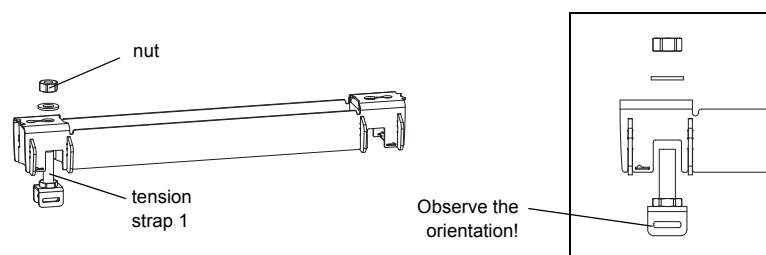

Fig. 9.18: Rail with tension strap clamp
- Place one tension strap clamp in the rail (see tension strap clamp 1 in Fig. 9.18). Observe the orientation of the tension strap clamp.